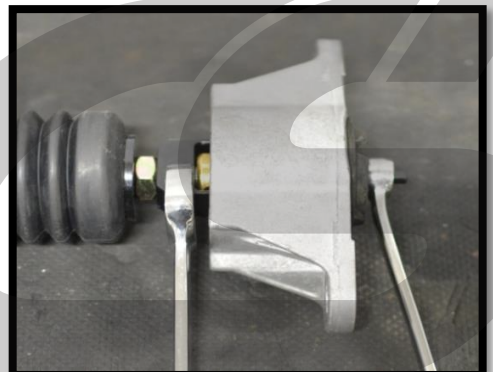

Figure 5c
- d) Use an 18mm wrench to hold the shock and a 12mm wrench on the nut as shown in **Figure 5c.**